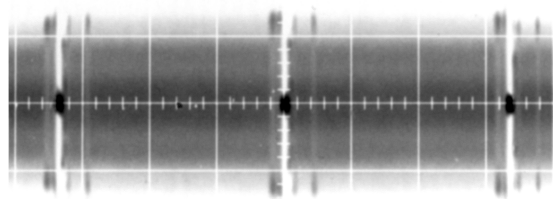

Fig. 6-2-6
- 2) Turn the tape guide No.3 and No.6 alternately until the waveform becomes flat. (Fig. 6-2-6)
- 4) Turn the No.3 guide slowly in the counterclockwise direction until the waveform becomes flat. (Fig. 6-2-6)
- 8) Turn the No.6 guide slowly in the counterclockwise direction until the waveform becomes flat. (Fig. 6-2-6)